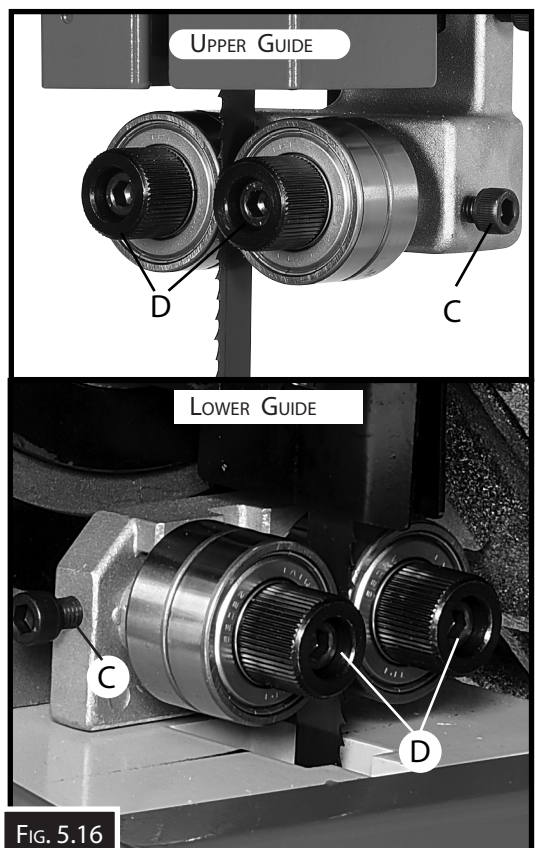

FIG. 5.16
3. Familiarize yourself with the blade guide controls shown in Fig. 5.16.
4. Undo the socket head cap screw of the blade guide bearings. (C in Fig. 5.16)
5. Using a feeler gauge rotate the bearings until 0.1mm away from the blade. (D in Fig. 5.16)